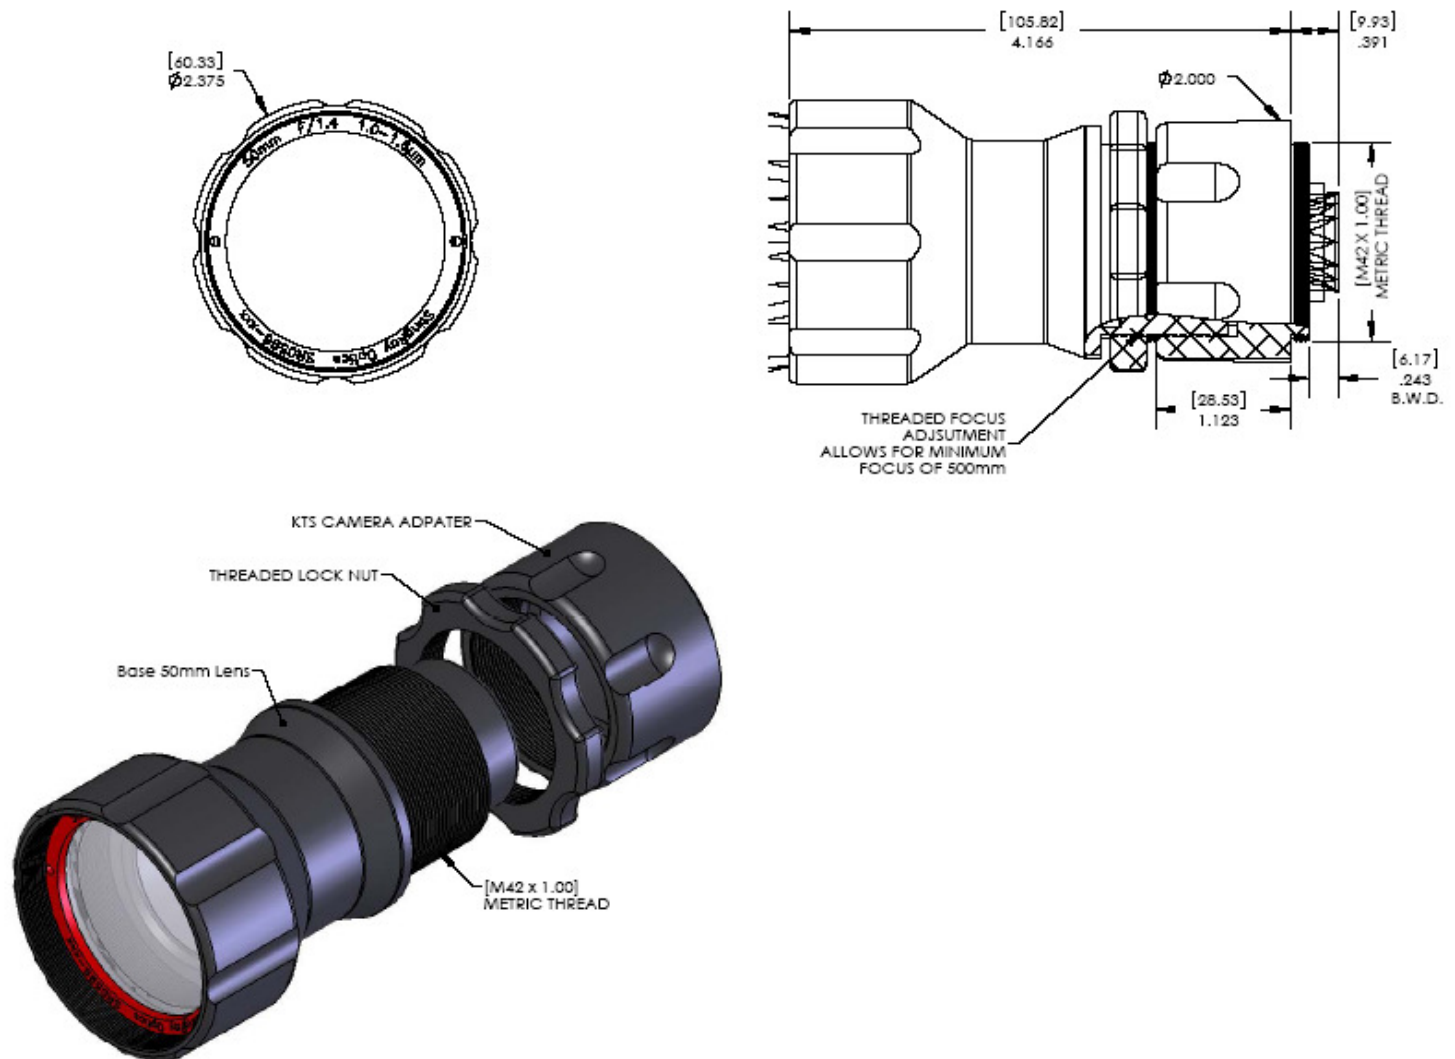

Figure 2. SOLO 50 lens mechanical specifications.
- 3.1 The SOLO 50 lens will be assembled as shown in Figure 2. The SOLO 50 lens requires that the M42 "KTS camera adapter" (p/n 1415-0470) is installed on your KT camera.
- 3.2 Remove the "KTS camera adapter" (shown in Figure 2) from the lens assembly and securely screw it onto the M42 thread located on the camera front face plate.